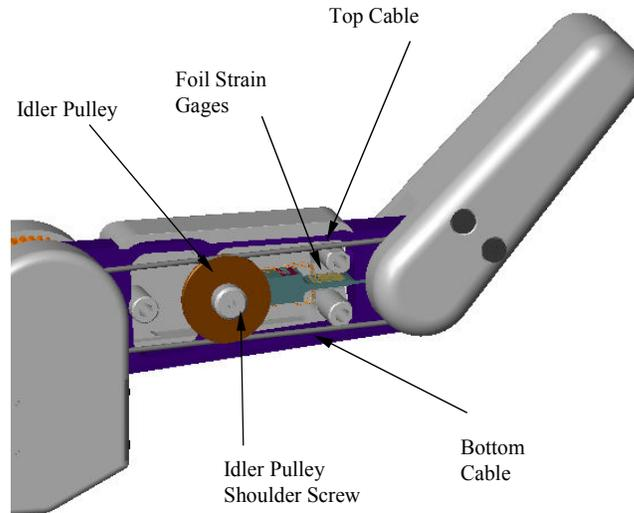

Figure 25 - Cable and Idler Pulley
2. Verify the cable is riding across both the top and the bottom of the idler pulley, as shown in Figure 25.
3. Verify the cable is riding properly on the idler pulley, as shown in Figure 25.
4. Verify idler pulley rotates freely on the shoulder screw. The shoulder screw should not be tightened against the idler pulley. If so, loosen shoulder screw, shown in Figure 25, so the idler pulley will move with cable motion.